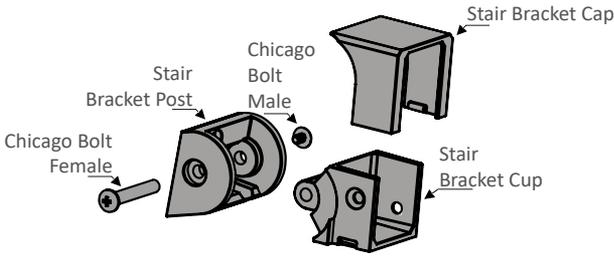

Fig. 87
7. Place top rail bracket bases on previous top edge mark. Center the base on the post and use pencil to add marks for two screw hole locations. As shown in Fig. 87.